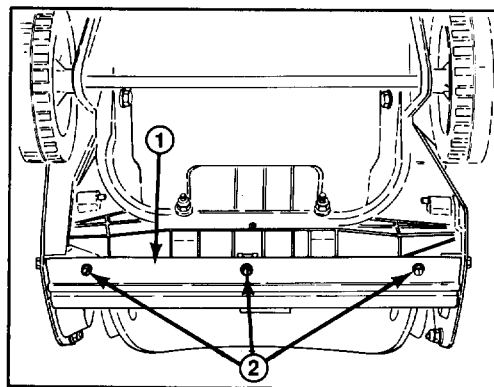

Figure 8
3. Remove (3) screws holding scraper in place (Fig. 8). Remove scraper.
4. Secure new scraper to housing with (3) screws.